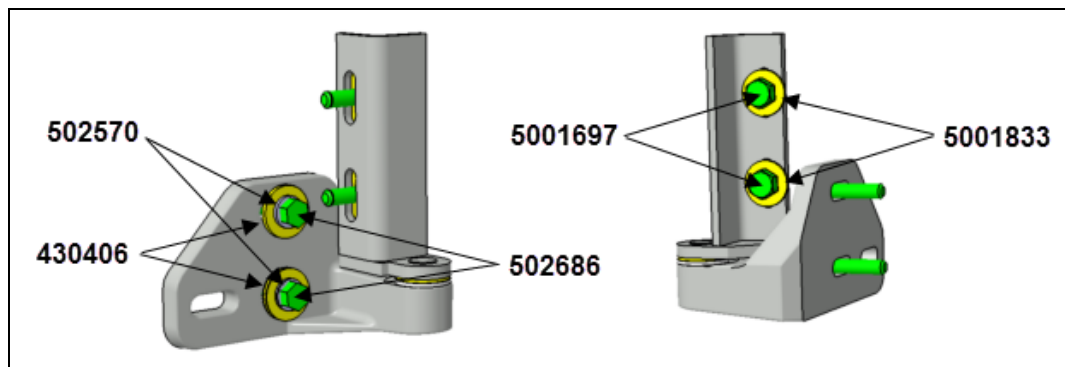

FIG.15 NEW HARDWARE TO BE INSTALLED - LOWER HINGE
- New M6 bolts and washers (**5001697 & 5001833**) are used at the door mounting points (Fig.15).
- New M6 bolts, locks & washers (**502686, 502570 & 430406**) are used at the vehicle structure point (Fig.15).